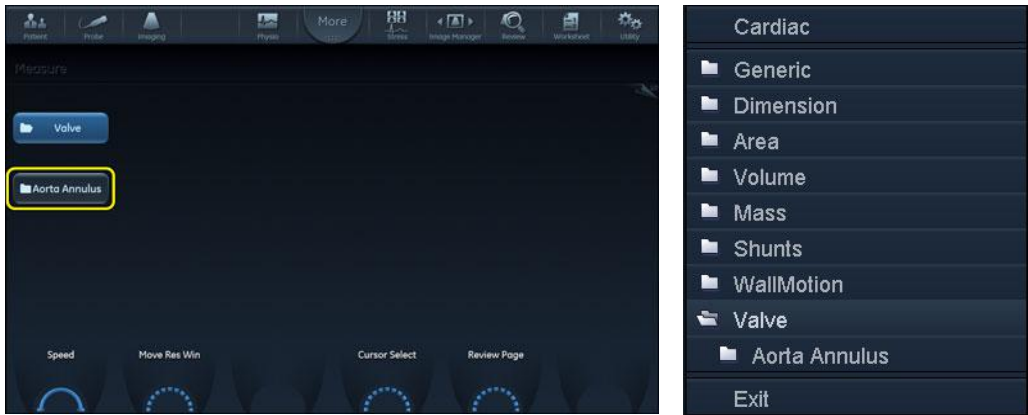

Figure 8-65. Selection of the 4D Auto AVQ tool
3. Select **Valve > 4D Auto AVQ** (Figure 8-65).